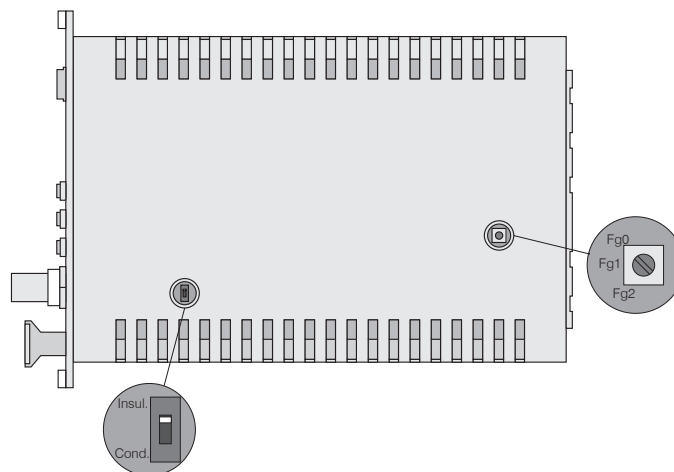

Fig. 27 Switches on board for material selection and limit frequency
Use the slide switch, see Fig. 27, to switch between conducting (Cond.) and non-conducting targets (Insul.). In position Cond. (conductor) only the zero setting with the zero-trimmer is active. The amplifying is set to 0 up to 10 V at the entire measuring range.
The limit frequency of the analog output signal can be set with a rotary switch on the board, see Fig. 27.
- Slide switch on the demodulator in position `Cond.` (Conductor, see Fig. 27)
➡ To do this, move the slide switch on the demodulator board to position `Insul.` (insulating materials, see Fig. 27). Make the necessary linearity adjustment as described, see 5.4.
- Slide switch on the demodulator in position *Insul.* (Insulation, see Fig. 27)